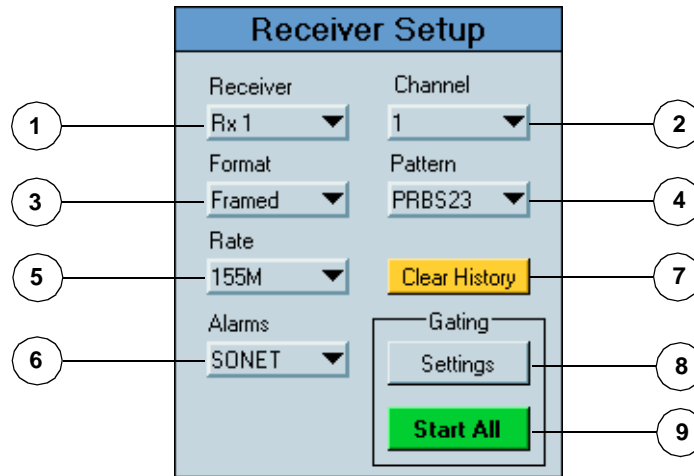

Figure 3-5. Receiver Setup Area
- 2 Receiver Setup, see Figure 3-5.
| <ul style="list-style-type: none"> 1 Select Single to run a measurement for the selected time Period. Select Repeat to run a measurement for the selected time Period over and over again. Select Manual to run a | <ul style="list-style-type: none"> measurement for an unlimited period of time (Period controls are unavailable). 2 Select or enter the gating Period for the selected channel (2 in Figure 3-5). |
Referring to Figure 3-8. The left side of the area displays alarm conditions. Green indicates no error, Red indicates an error and Yellow indicates that there has been an error during the present gating period. (The Clear History button in the Receiver Controls area clears the history, see 7 in Figure 3-5.) The right side of the area displays the current Bit Count/Ratio, B1 Count/Ratio, B2 Count/Ratio, J0 String and the Elapsed Time.
- 6 AIS-L (Alarm Indication Signal - Line) indicators* for each channel if SONET was selected in the Receiver Setup (6 in Figure 3-5). MS-AIS (Multiplex Section - Alarm Indication Signal) if SDH was selected in the Receiver Setup (6 in Figure 3-5).